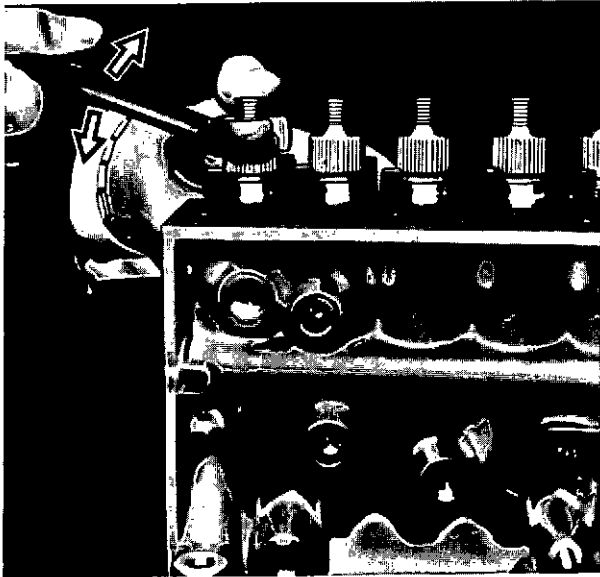

Fig. 32 Easing assembly into place
5. Insert the barrel/delivery valve assemblies, each with the drilling for the flange bushing peg (arrowed, fig. 31) towards the pump rack. Ease the units into place by gentle downward pressure and rocking, using ring spanner 1 687 950 525 (fig. 32). Fit the plain washers, spring washers and nuts, finger-tight; position each assembly with its securing studs at mid-point of the adjusting slots and tighten the nuts evenly to between 29 and 32 lbf.ft. (39 and 44 Nm).